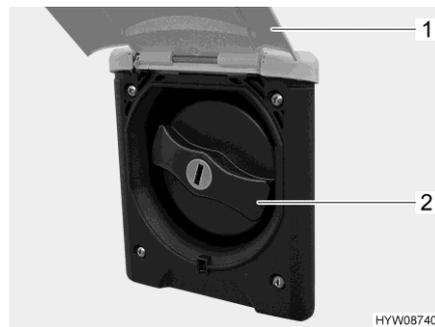

Fig. 146 Cap (drinking water filler neck)
- Swivel the external flap (Fig. 146,1) upwards.
- Turn the blue cap (Fig. 146,2) one quarter turn.